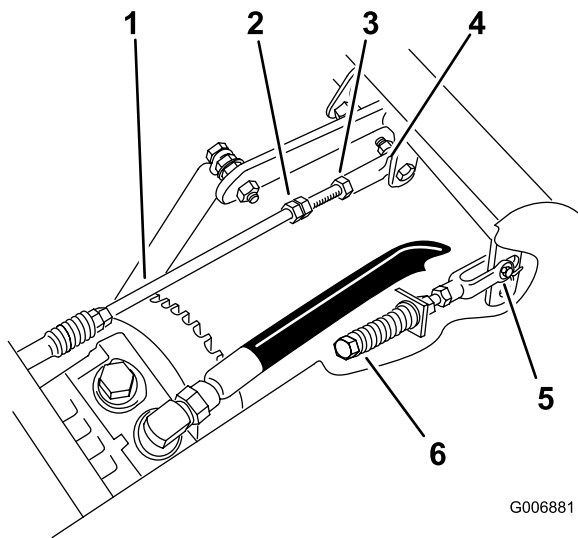

Figure 68
3. Adjust the pump rod length by rotating the double nuts on rod, in the appropriate direction, until the wheel is still or slightly creeping in reverse (Figure 68).
6. Tighten the locknut at the ball joint (Figure 68).